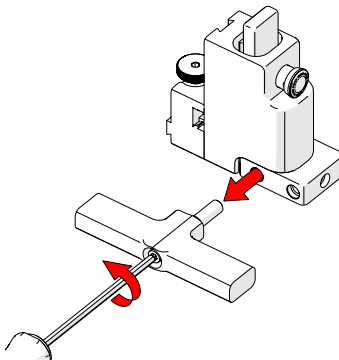

Fig. 63 - Remove yoke
2. Use the supplied 3 mm driver to unscrew the yoke (Fig. 63).